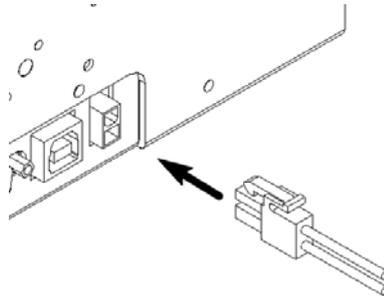

Figure 4.5-1 Connecting power adapter
- 2) Insert the power adapter cable into the power interface at the bottom of the printer as showing in figure 4.5-1.